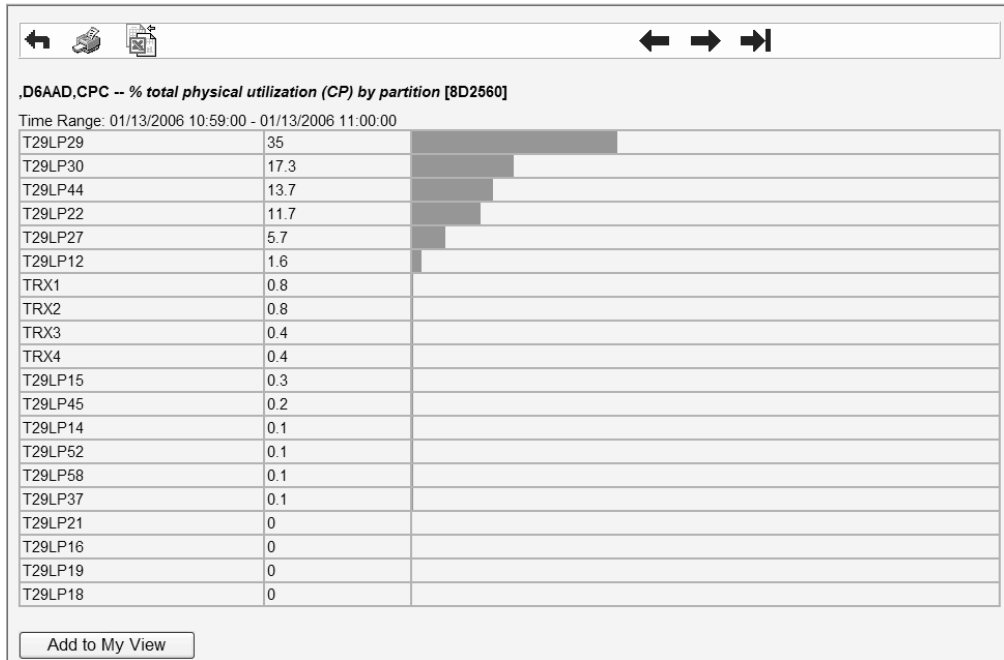

Figure 137. Total utilization of the processors by partitions
If you want to know the total utilization of the physical standard processors by the partitions in the CPC, click on *% total physical utilization (CP) by partition*. Clicking on this metric opens another view presenting the desired results, in our example, a list of partitions, showing the percentage of utilization for each (Figure 137 on page 230).